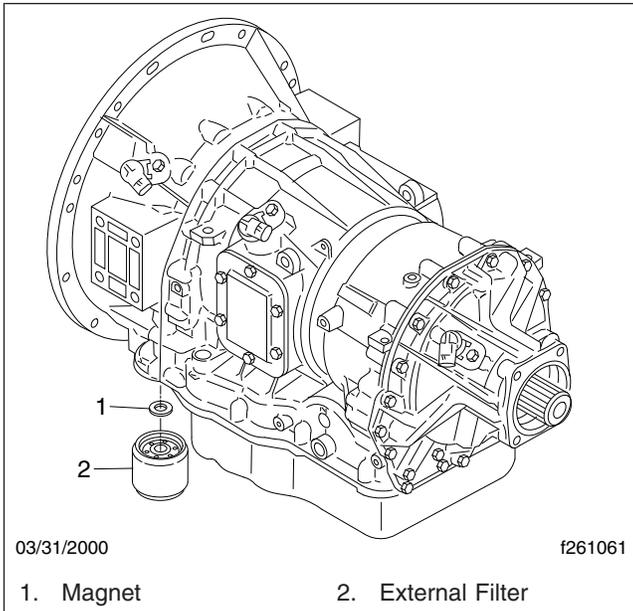

Fig. 3, 2100/2200/2500 Series Transmission External Filter
4. Using a standard strap-type filter wrench, remove the filter by turning it counterclockwise. See Fig. 3.